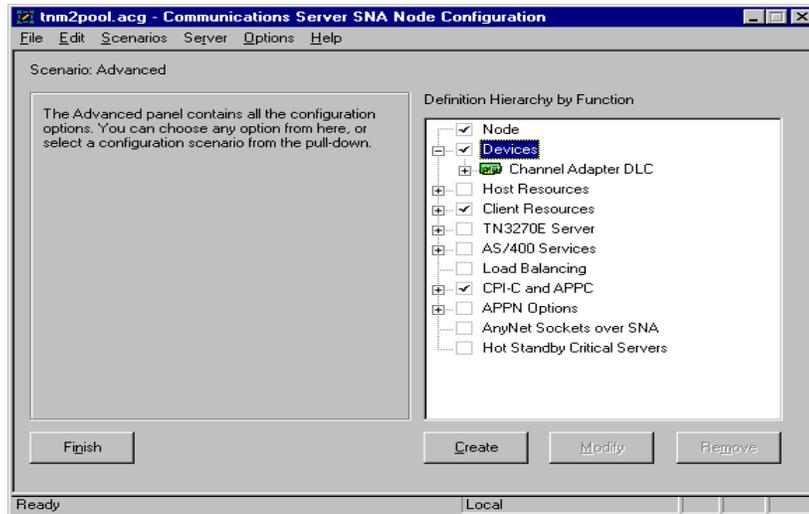

Figure 7-16. Channel Adapter listed under Devices
4. The main configuration screen will be displayed again. The adapter should now appear in the Device Hierarchy on the right side of the screen (Figure 7-16).